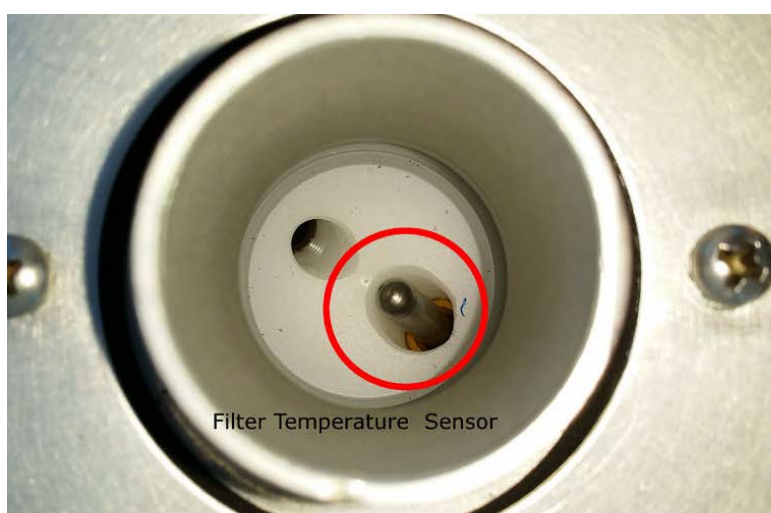

Figure 22. Filter Temperature Sensor.
15. Unlatch the top cover of the instrument and remove the VSCC. Position the external probe as close as possible to the sampler’s filter temperature sensor (see Figure 22).